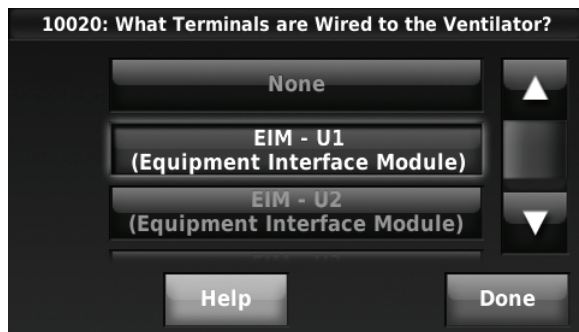

Fig. 254.
2. Select the terminals wired to the Ventilator (or Fresh Air Damper). See Fig. 254.